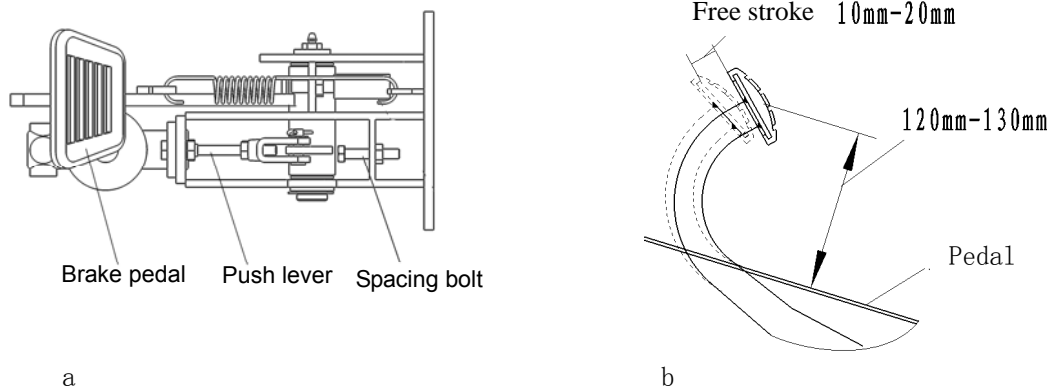

Figure 2-31
2.7 Adjusting the brake pedal as shown in Figure 2-31 (a)
- (1) Shorten the push lever;
- (2) Regulate the pedal spacing bolt and adjust the pedal height as shown in Figure 2-31 (b);
- (3) Adjust the length of the push lever until its front end contacts with the piston of master cylinder. Then turn back 1-2 circles to guarantee a free travel of the pedal between the 10mm-20mm;
- (4) Lock the nuts of push lever and the pedal spacing bolt.